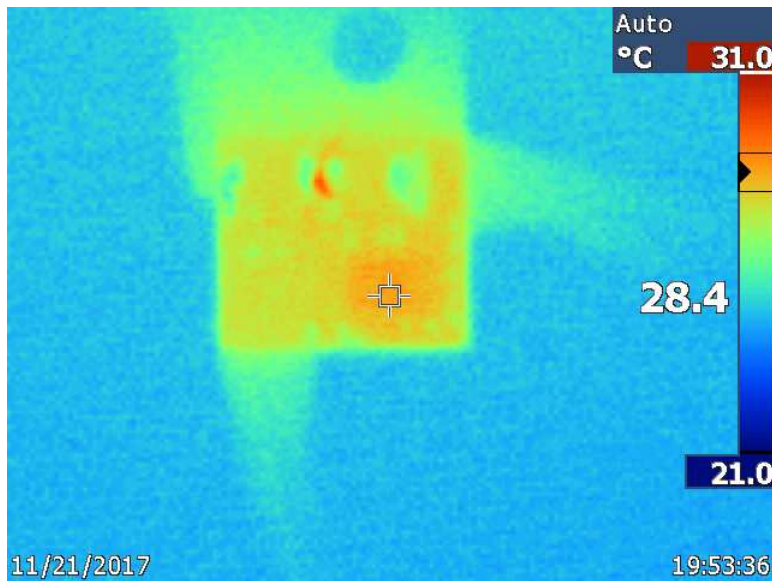

图 15. Thermal Image at 24 V_{IN}, 5 V_{OUT}, 10 mA I_{OUT}
The infrared (IR) thermal image in 图 15 was taken at steady state with 24 V_{IN} and the LMR36006 output at a load of 10 mA (no airflow). The ambient temperature is approximately 22°C. The maximum IC temperature is 28.4°C.